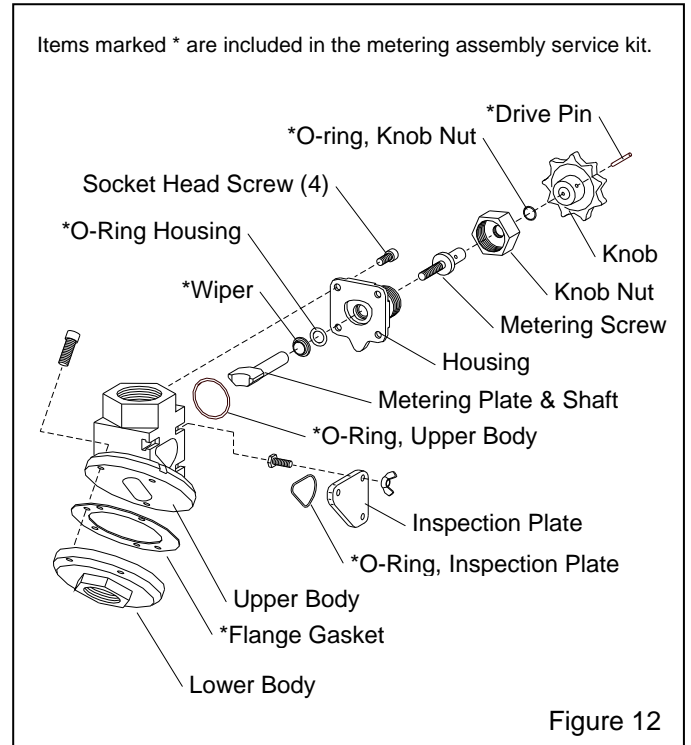

Figure 12
6.7 Quantum Manual Metering Valve, Figure 12